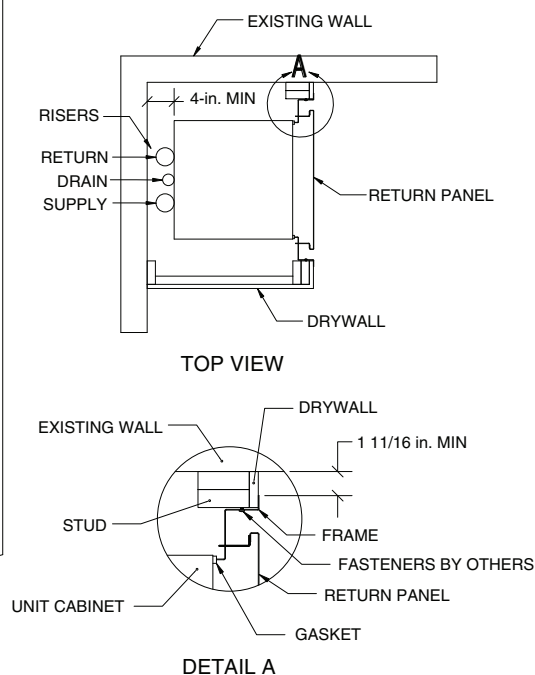

Fig. 6 — Framing Rough-In Detail
Step 4 — Install Drywall — All rough-in instructions and drawings are designed for a single layer of $\frac{5}{8}$ in. thick drywall. Refer to Fig. 6. Rough-in dimensions will be affected if drywall thickness is different than $\frac{5}{8}$ in., the return panel will not fit snugly to the wall and form a tight seal. Install drywall using conventional construction methods. Drywall cannot be fastened to the studs with adhesive alone; a mechanical fastener such as drywall screws must be used.